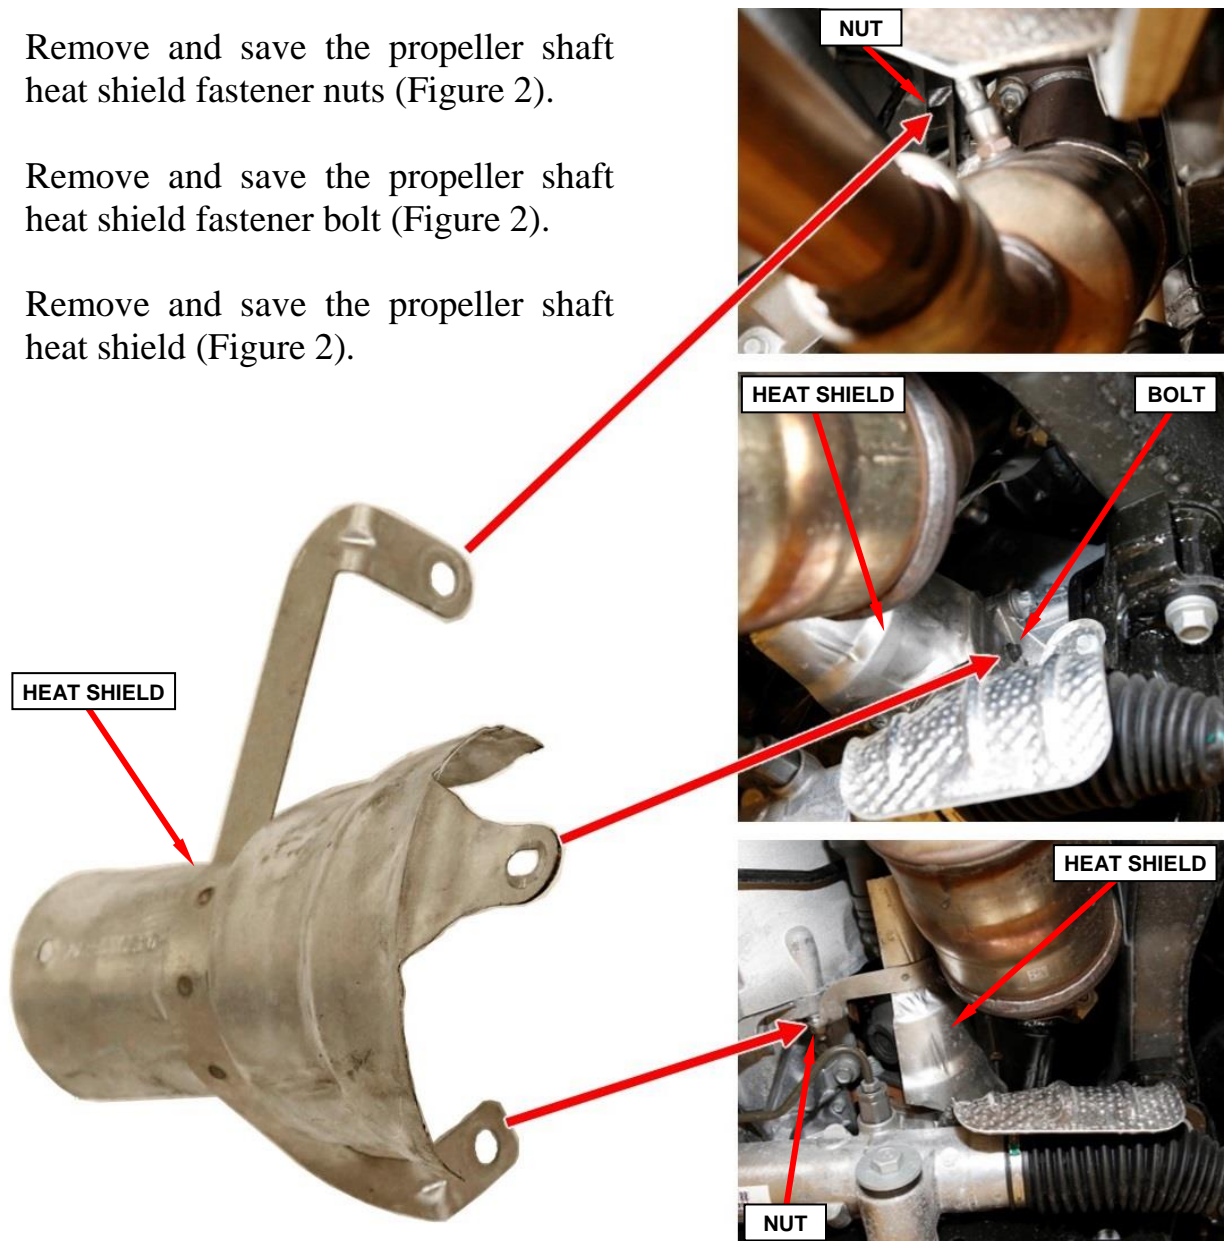

Figure 2 – Propeller Shaft Heat Shield
1. Remove and save the propeller shaft heat shield fastener nuts (Figure 2).
2. Remove and save the propeller shaft heat shield fastener bolt (Figure 2).
3. Remove and save the propeller shaft heat shield (Figure 2).
10. Install the heat shield retaining nuts. Tighten the nuts to 11 N·m (97 in. lbs.) (Figure 2).
11. Install the heat shield retaining bolt. Tighten the bolt to 11 N·m (97 in. lbs.) (Figure 2).